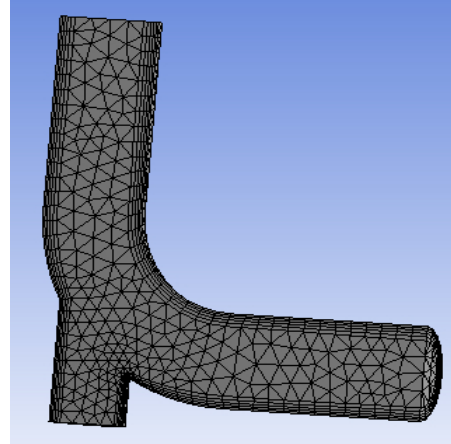

Fig. 2
- (i) Following Tutorial #1, the mesh for the modified system should still have enhanced resolution along the wall; see Fig. 2. The mesh shown in Fig. 2 is the minimum requirement. A further refinement of the mesh is strongly recommended. (Otherwise, the relatively low resolution in the interior of the pipe will affect the quality of the line plots for Task 2.)